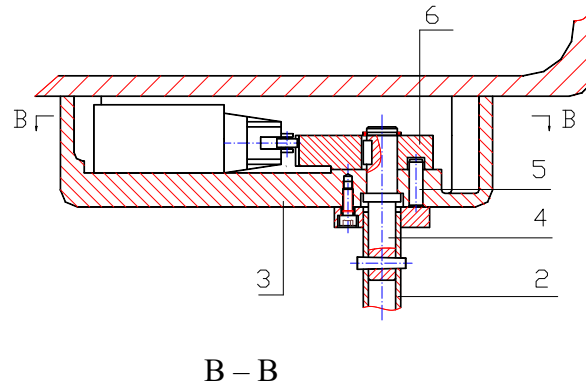

Fig.33 Structure of foot-pedal braking device
you step the treadle (1), both the shaft (4) and the cam (6) fixed on it overcomes pulling force from the spring (8) for rotating to pressing the travel switch (7) to make the motor switched off and the braking clutch attracts on to make the spindle stop running. When you release the treadle (1), the cam and the treadle recovers to original positions by help of pulling force from the spring (8) for releasing the travel switch. On the side of the cam (6) there is a limit position slot, the pin (5) is inserted in the slot, which limits the cam moving in a certain range, ensuring hat moving range of the cam (6) does not excess the range allowed due to pulling force from the spring and stepping force from the operator (see Fig. 33). Foot stepping force is in general less than 120N which is in accordance with regulation of the standard of ergonomics.